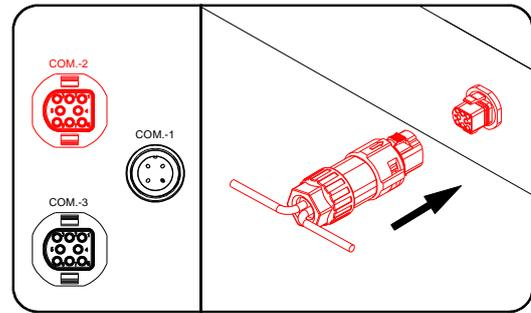

FIG 4-11 Insert the connector into the receptacle
Step 4: Finally insert the assembled connector into the RS485 receptacle (COM.-2) on the inverter, as per FIG.4-11.